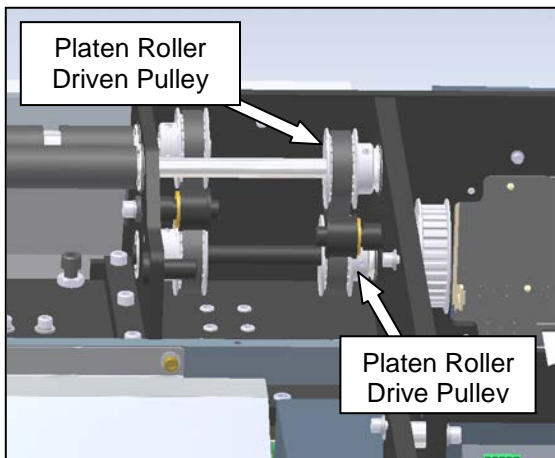

Figure 3-176. Belt Take-Up Shafts
- Loosen the four set screws on the two pulleys shown in Figure 3-176 until they are free to slide.